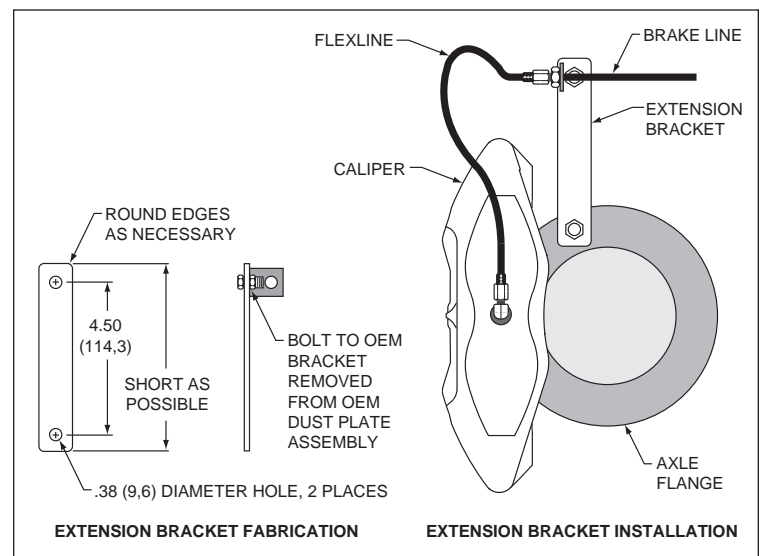

Figure 4. Brake Line Bracket Fabrication / Installation
- **NOTE:** OEM rubber brake hoses generally cannot be adapted to Wilwood calipers. The caliper inlet fitting is a 1/8-27 NPT. The preferred method is to use steel adapter fittings at the caliper, either straight, 45 or 90 degree and enough steel braided line to allow for full suspension travel and turning radius, lock to lock. **Carefully route lines to prevent contact with moving suspension, brake or wheel components.** Wilwood hose kits are designed for use in many different vehicle applications and it is the installer's responsibility to properly route and ensure adequate clearance and retention for brake hose components. Wilwood offers a hose kit, P/N 220-9855, which includes hoses, fittings, etc., all in one package for this application. Dependent on the application, line kit installation may require a support bracket to be fabricated, then bolted in place to support the original hardline (not included in kit), see Figure 4.